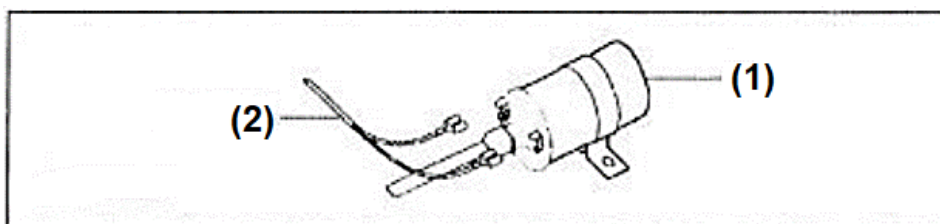

Figure 2
9. Remove the compression tester from the first cylinder. Repeat the steps 6 to 8 for the rest of the engine cylinders (see fig 2 and 3).